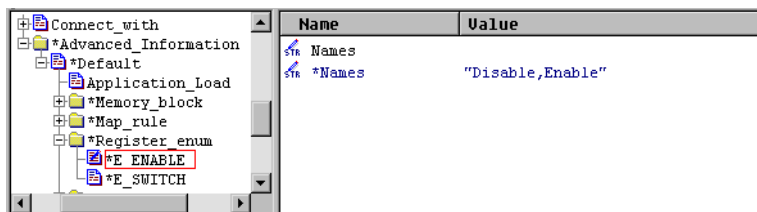

Figure 13-24 Creating enumerations
7. Set the value of the Names entry, in the right pane, to Disable,Enable, shown in Figure 13-24.